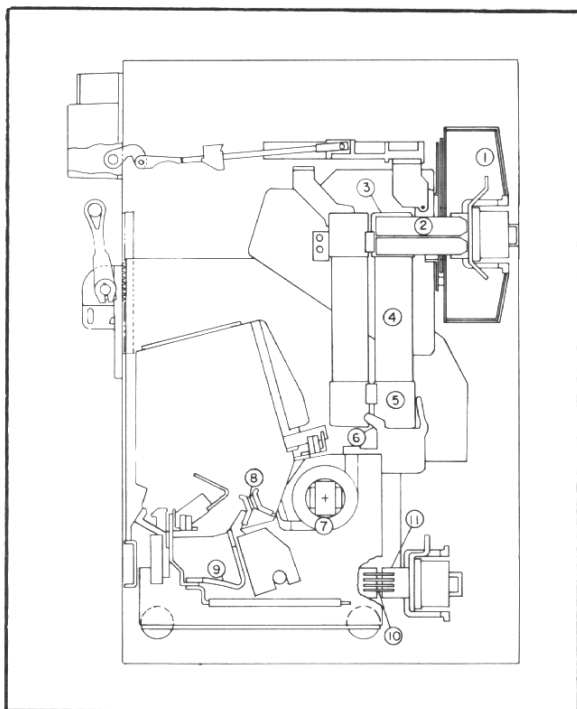

Fig. 4 Starter In Energized Position (Dwg 6486D81)
The flow of power (Fig. 4, Pg. 3) from incoming line terminals (1) to lower stab assembly (11) is directly through the three major components eliminating need for making any internal bus or cable connections.